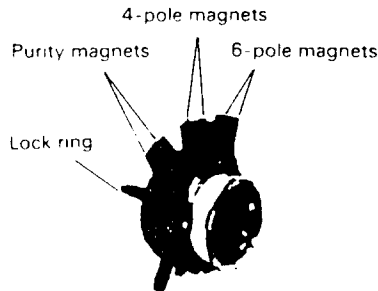

Figure 5
- (1) Receive a cross-hatch signal.
- (2) Set the CONTRAST control to minimum. If necessary, adjust the BRIGHTNESS control.
- (3) Adjust the 4-pole magnets to converge red and blue vertical and horizontal lines at the center of the screen (Figure 5).
- (4) Adjust the 6-pole magnets to place the red and blue converged lines on the green line.
- (5) If necessary, repeat steps (3) and (4) above.
- (6) Fasten lock-ring tightly.